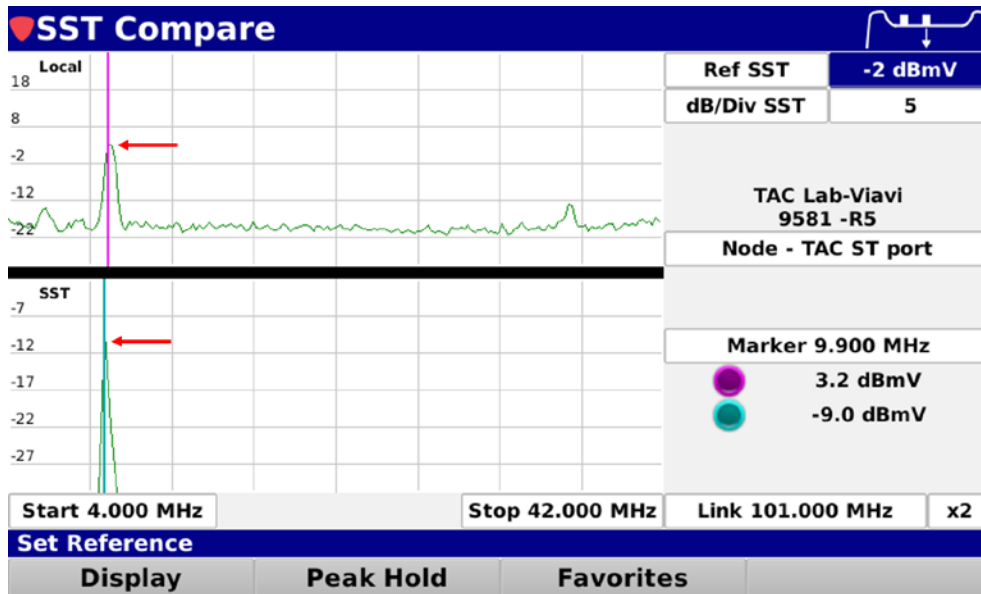

Figure 7 – 1G DSP displaying local and SST ingress from 4- 42MHz
- e. The display will show both local spectrum and SST spectrum (Figure 7)